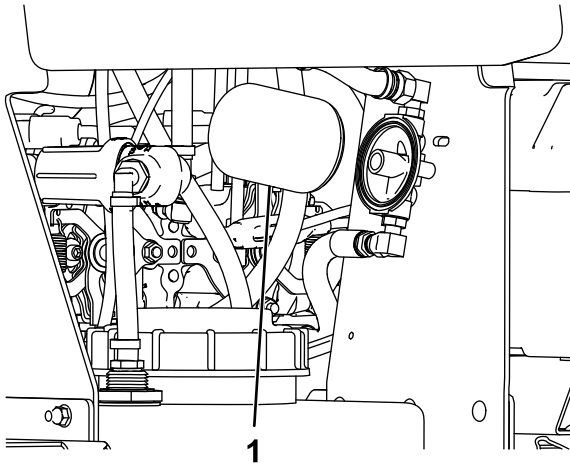

Figure 50
7. Remove the hydraulic filter (Figure 50).